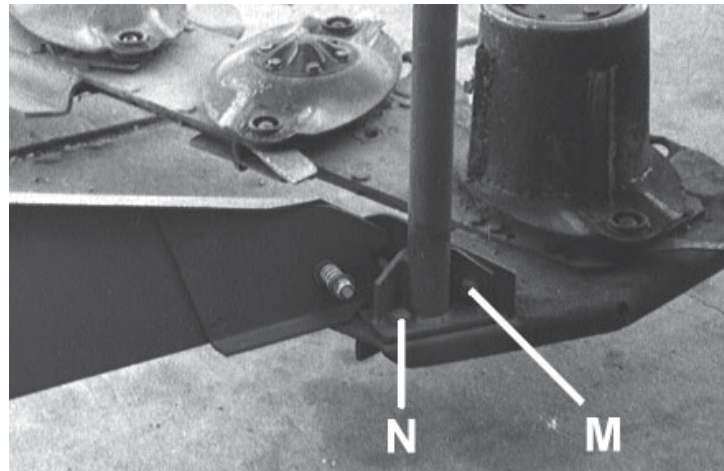

Figure 12
13. Install the Swath Board Bracket (N) beneath the end of the cutter bar as shown in **Figure 12** using the hardware shown in the parts list. If the swath board is not installed, install it in the swath board bracket at this time.